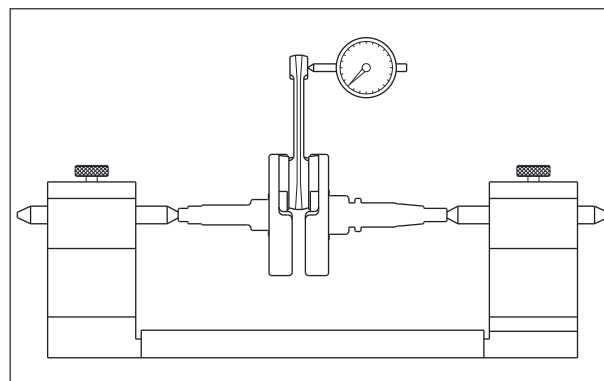

Fig. 3.171
- Measure big end wear of connecting rod by the deflection of small end. If deflection exceeds the limit, replace the crankshaft assembly with a new one. (Fig. 3.171)